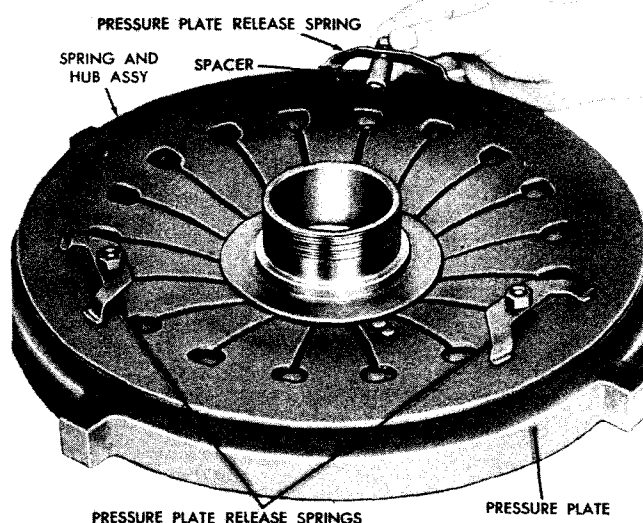

Fig VIII-9. Removing (or installing) pressure plate release spring
(3) Using a 9/16-inch wrench, remove three pressure plate release spring bolts and remove the pressure plate release springs and release spring spacers (fig. VIII-9). The spring and hub assembly can then be lifted off the pressure plate.
(1) Place the spring and hub assembly on the clutch pressure plate (fig. VIII-9).
(2) Install the pressure plate release springs and spacers and secure them with three self-locking bolts (fig. VIII-9).